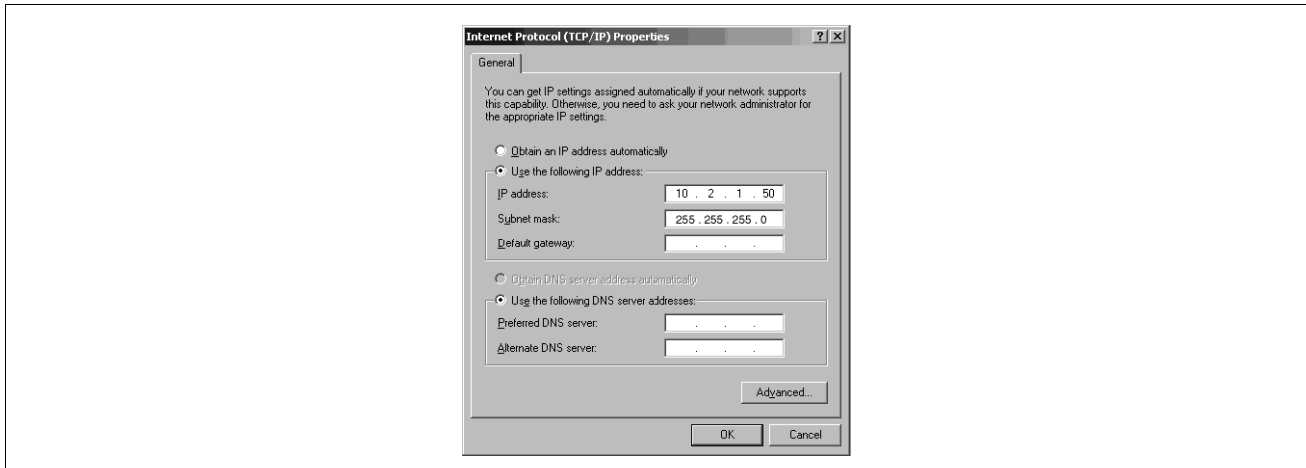

Figure 12. Internet Protocol TCP/IP Properties dialog box
4. In the 'Components checked are used by this connection' window, highlight Internet Protocol (TCP/IP) and then click the **Properties** button to display the Internet Protocol TCP/IP Properties dialog box (Figure 12).
- Click the **Use the following IP Address** radio button and enter an IP Address and Subnet mask for your PC. You can use an IP address that is one digit off from the customer supplied IP Address you will assign to the console's TDIM Module. For example, if the IP Address for the TDIM Module is 10.2.1.51, you would enter 10.2.1.50 for the PC's IP Address. You also need to enter a Subnet mask. Use the same Subnet mask that is in the example in Figure 12 above (255.255.255.0).
Note: Prior to reconnecting your computer to a network, you will need to select the **Obtain an IP address automatically** radio button as shown in Figure 12 above.